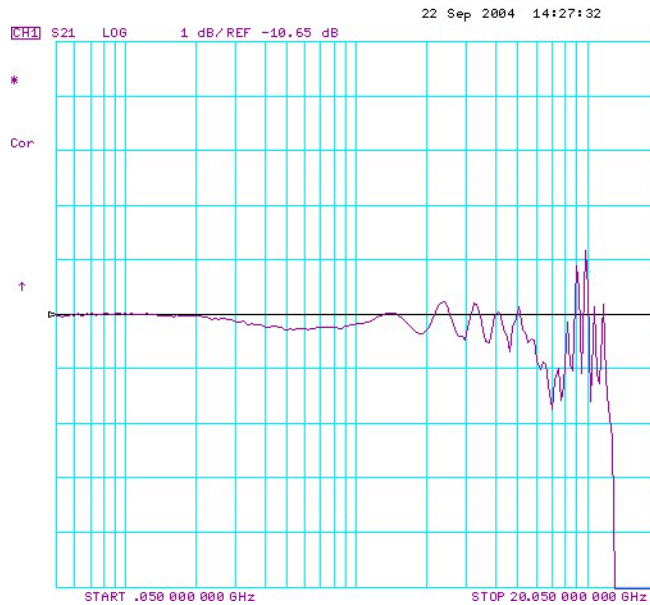

Figure 219 Typical V_{out} Waveform for an 1134B Probe
- 42 The display on screen is V_{out} and it should be similar to that shown in **Figure 219**.